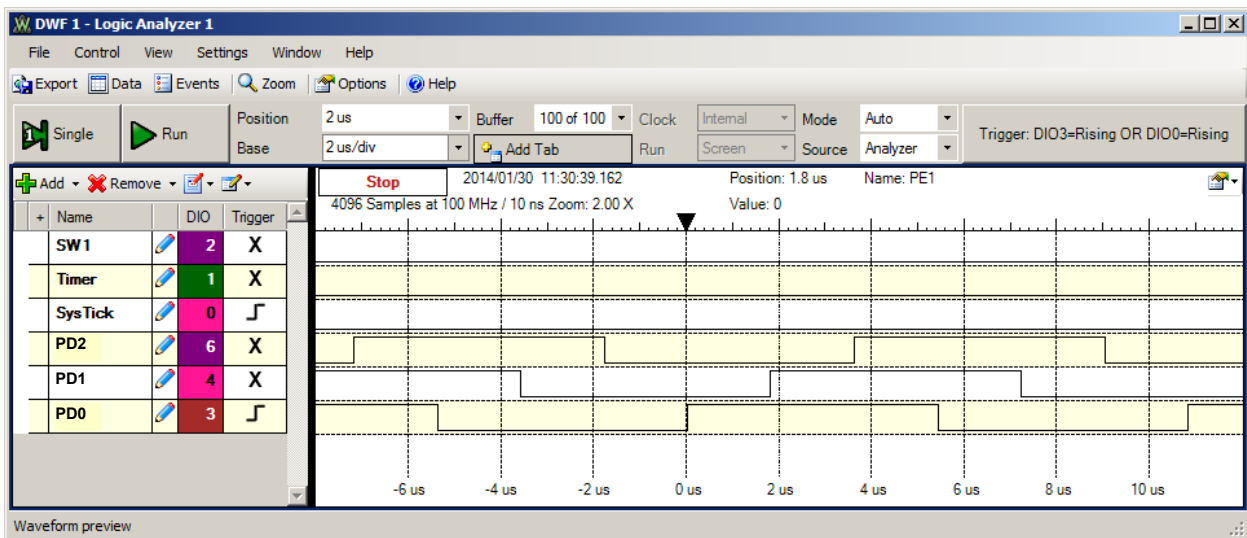

Figure 2.1. Logic analyzer profiling for cooperative thread switching. You may use any free pins for profiling.
*Testmain1* needs a cooperative thread scheduler with no interrupts. Each thread will suspend itself each time through the loop by calling **OS\_Suspend()**. When *Testmain1* executes, the PD0, PD1, PD2 outputs will look like Figure 2.1, and the three count variables will be equal ( $\pm 1$ ). In Figure 2.1, each toggle means a thread has started a pass through its main loop. For this system, these threads are running every 1.8  $\mu$ s. Figure 2.1 shows no interrupts from the switch, timer, or SysTick.